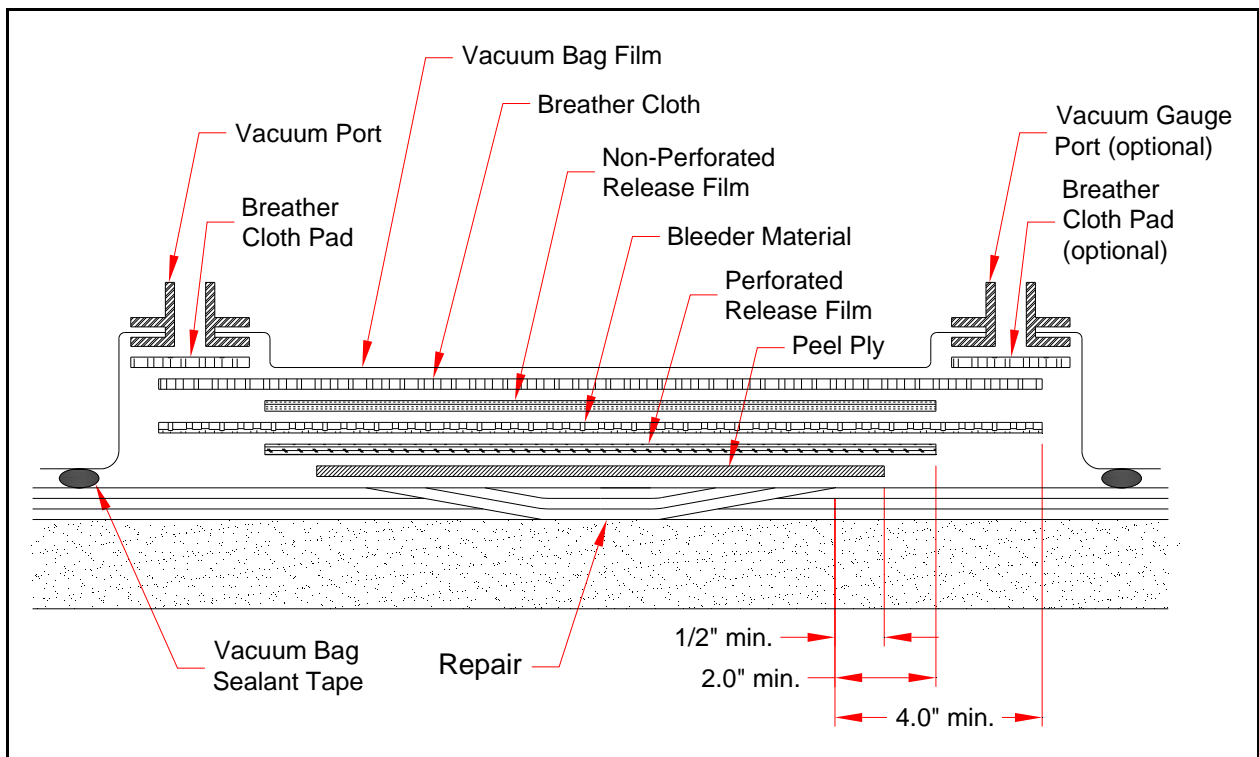

Figure 51-20-07 Vacuum Pressure Repair
- Step 2. Cut peel ply to size. Peel ply must extend at least ½ inch past all edges of the repair - See Figure 51-20-07. Lay in place.